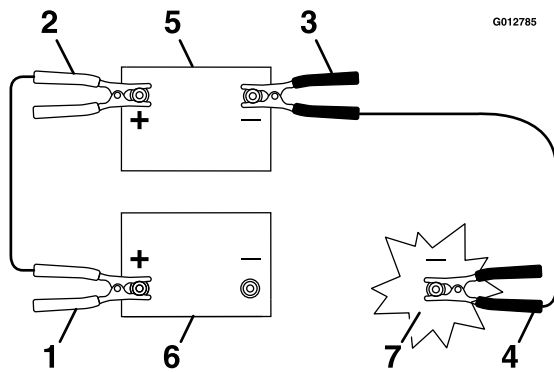

Figure 15
3. Connect the positive (+) cable to the positive (+) terminal of the discharged battery that is wired to the starter or solenoid as shown in Figure 15.